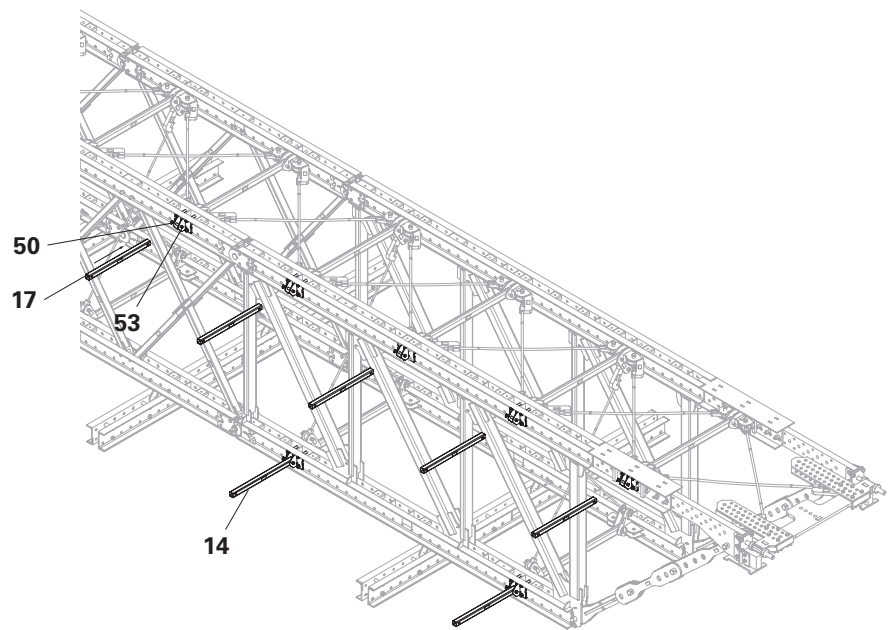

Fig. B2.22
1. Fix the coupling posts (**17**) to the coupling connections (**14**) using filler pins (**53**) and secure with cotter pins (**50**). (Fig. B2.22)